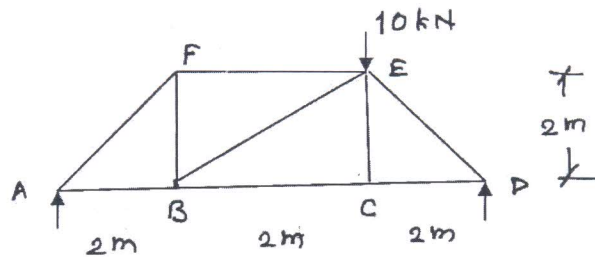

Fig. 4
5. Find the forces of the truss supported and loaded as shown in Fig. 4. The cross-section area of vertical and horizontal members is 3000 mm^2 and that of diagonals is 4500 mm^2 . Also determine deflection at joint 'C'. [16]